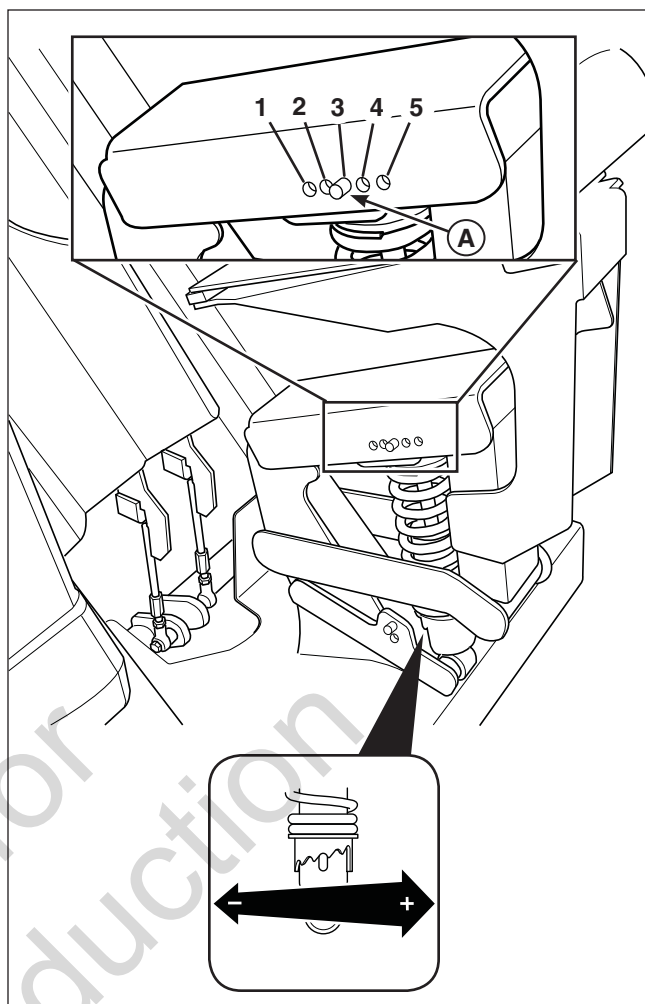

Figure 33. Suspension Adjustment
2. See Figure 33. Using the supplied spanner wrench (P/N 5022853), insert the tip of the wrench into the notch in the pre-load adjuster. While holding the wrench with both hands, turn **CLOCKWISE** to decrease the pre-load, turn **COUNTER-CLOCKWISE** to increase the pre-load.
2. Remove the upper shock mounting hardware (A, **Figure 33**) and move the shock towards the front of the machine to soften the ride or move the shock towards the rear of the machine to stiffen the ride.